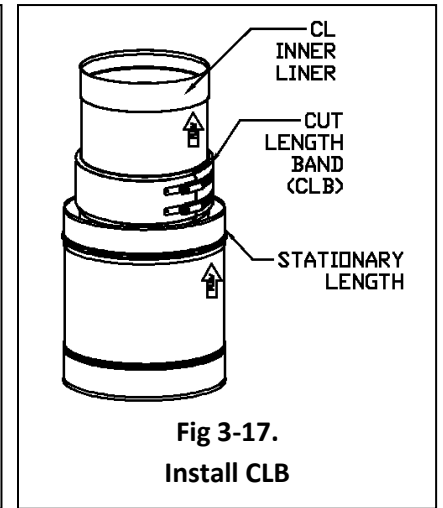

Fig 3-17. Install CLB
8. Position CK-Cut Band so it captures the expansion on the female inner and adjacent pipe/fitting (See Fig 3-17).